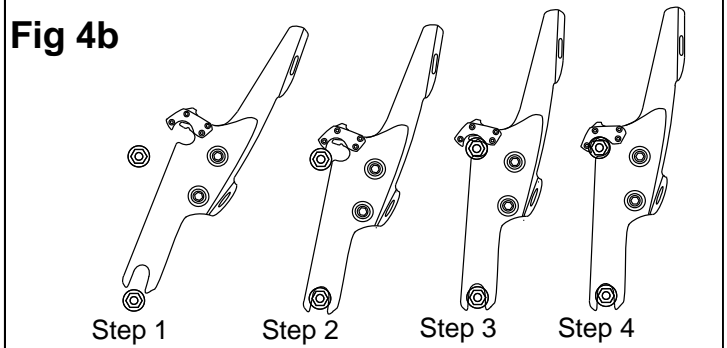

Fig 5
7. This is a detachable fairing / windshield, ALWAYS make sure the Locking Mechanism is fully engaged after installation (See Fig 5)